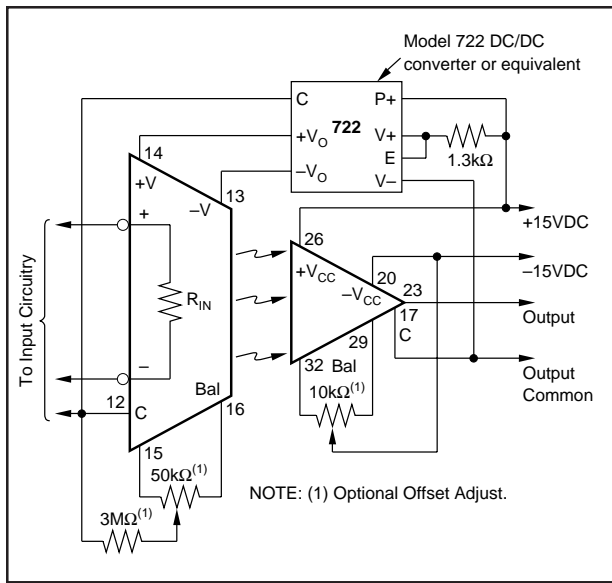

FIGURE 5. Power and Offset Adjust Connections.
The power supply connections for the 3650 and 3652 are shown in Figure 5. When a DC/DC converter is used for isolated power, it is placed in parallel with the isolation barrier of the amplifier. This can lower the isolation impedance and degrade the isolation-mode rejection of the overall circuit. Therefore, a high quality, low leakage DC/DC converter such as the Burr-Brown Model 722 should be used.
The offset nulling circuits are identical for the 3650 and 3652 and are shown in Figure 5. The offset adjust circuitry is optional and the units will meet the stated specifications with the BAL terminals unconnected. Provisions are available to null both the input and output stage offsets. If the amplifier is operated at a fixed gain, normally only one adjustment will be used: the output stage (10kΩ adjustment) for low gains and the input stage (50kΩ adjustment) for high gains, (>10).
NOTE: (1) The offset adjustment circuitry and power supply connections have been omitted for simplicity. Refer to Figure 5 for details. (2) IMRR here is in pA/V, typically 5pA/V at 60Hz and 1pA/V at DC.
NOTE: (1) The offset adjustment circuitry and power supply connections have been omitted for simplicity. Refer to Figure 5 for details.